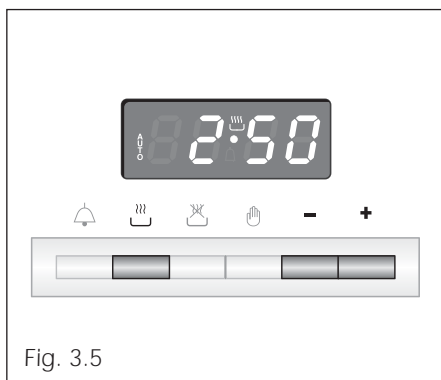

Fig. 3.5
1. Set the length of the cooking time by pushing the  button and the  button to  advance, or to go back if you have passed the desired time (fig. 3.5). The **AUTO** and the  symbol will be on.